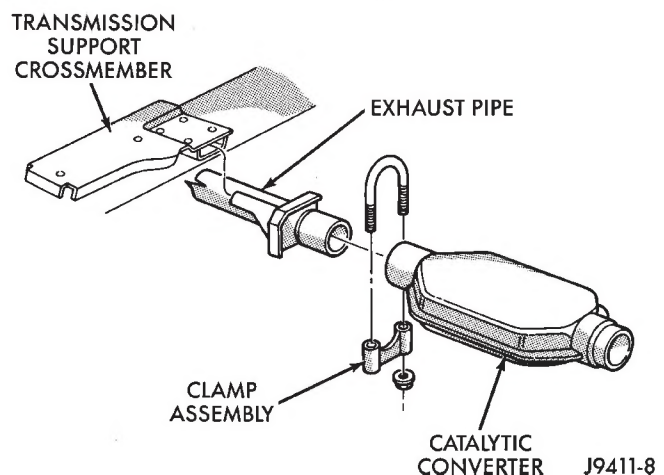
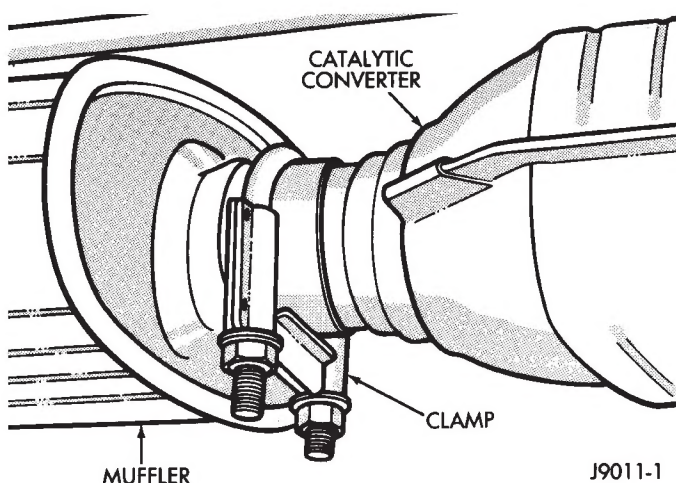
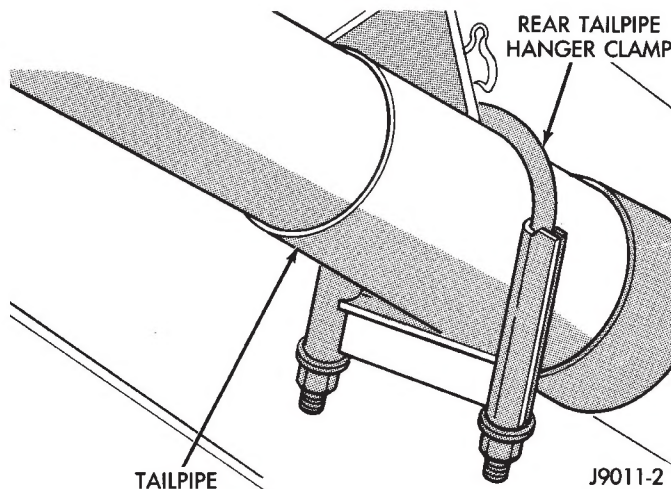
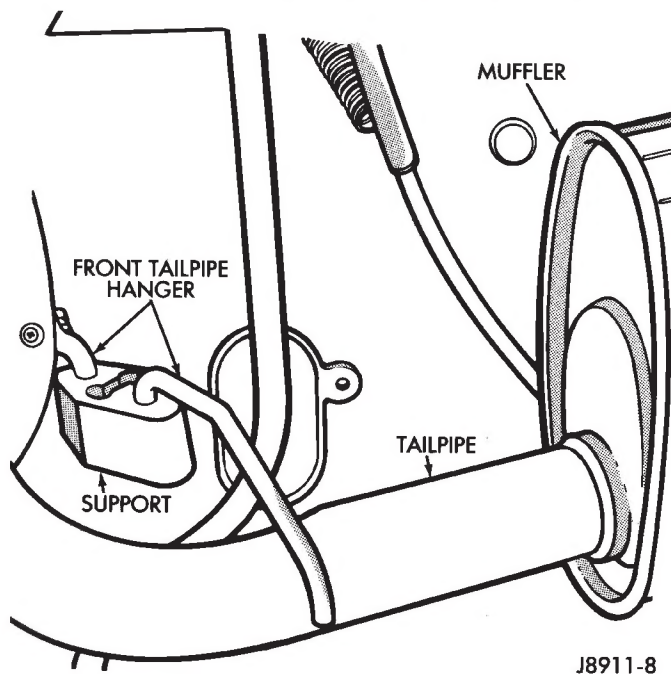

Fig. 3 Exhaust Pipe-to-Catalytic Converter Connection
Fig. 6 Catalytic Converter-to-Muffler Connection
Fig. 7 Rear Exhaust Tailpipe Hanger Clamp
Fig. 8 Front Exhaust Tailpipe Hanger
- (5) Support the transmission and remove the rear crossmember.
- (6) Remove the damp nuts and damp (Fig. 3). To remove the exhaust pipe from the catalytic converter, apply heat until the metal becomes cherry red. Disconnect the exhaust pipe from the catalytic converter (Fig. 3). Remove the exhaust pipe.
(1) Raise and support the vehicle.
(2) Remove the clamp from the catalytic converter and muffler connection (Fig. 6).
(3) Heat the catalytic converter and muffler connection with an oxyacetylene torch until the metal becomes cherry red.
(4) While the metal is still cherry red, twist the muffler assembly back and forth to separate it from the catalytic converter.
(5) Disconnect the exhaust pipe from the catalytic converter (Figs. 3 and 5). If needed, heat up the pipes to separate.
(1) Connect the catalytic converter to the exhaust pipe (Figs. 3 and 5). Use a new clamp and tighten the nuts to 61 N·m (45 ft. lbs.) torque.
(2) Install the muffler onto the catalytic converter until the alignment tab is inserted into the alignment slot.
(3) Install a new clamp at the muffler and catalytic converter connection (Fig. 6). Tighten the clamp nuts to 61 N·m (45 ft. lbs.) torque.
(4) Lower the vehicle.
(5) Start the engine and inspect for exhaust leaks and exhaust system contact with the body panels. Adjust the alignment, if needed.
(2) Remove the front muffler clamp from the catalytic converter and muffler connection (Fig. 6).
(3) Remove the rear exhaust tailpipe hanger clamp (Fig. 7) and remove the exhaust tailpipe from the front exhaust tailpipe hanger (Fig. 8).
- (1) Install the muffler onto the catalytic converter. Install the clamp and tighten the nuts finger tight.
- (2) Install the exhaust tailpipe into the rear of the muffler.
- (3) Install the exhaust tailpipe/muffler assembly on the rear exhaust tailpipe hanger. Make sure that the exhaust tailpipe has sufficient clearance from the floor pan.
- (4) Install the remaining clamps and the front exhaust tailpipe hanger.
- (5) Tighten the nuts on the muffler-to-catalytic converter clamp to 61 N·m (45 ft. lbs.) torque (Fig. 6). Tighten the nuts on the rear exhaust tailpipe clamp to 14 N·m (10 ft. lbs.) torque (Fig. 7).
- (6) Lower the vehicle.
- (7) Start the engine and inspect for exhaust leaks and exhaust system contact with the body panels. Adjust the alignment, if needed.
- (1) Raise the vehicle and support the rear of the vehicle by the side rails and allow the axle to hang free.
- (2) Remove the front muffler clamp from the catalytic converter and muffler connection (Fig. 6).